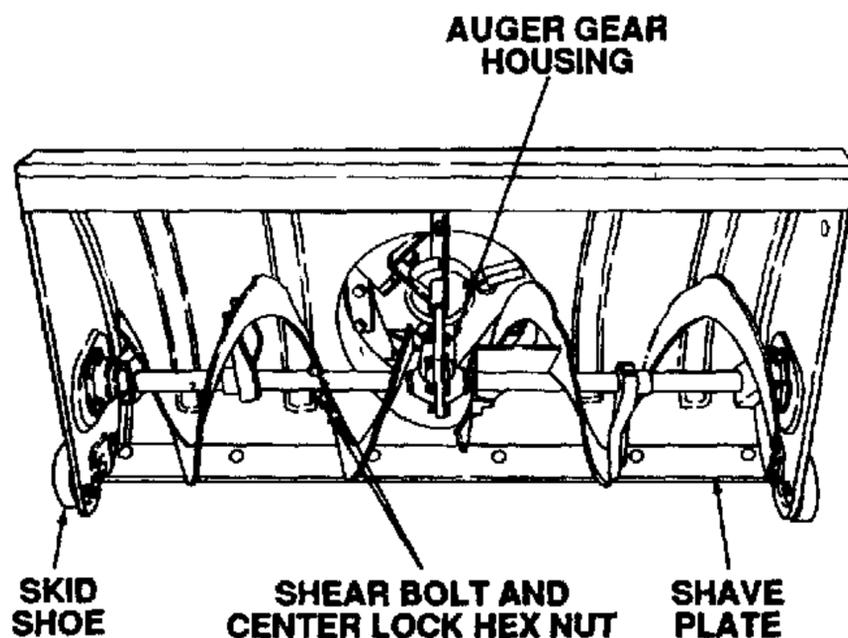

Figure 7-40. Shave Plate and Skid Shoes.
2. The shave plate and skid shoes on the bottom of the snow thrower (See Fig. 7-40) are subject to wear. If worn service as follows:
3. To protect the gear box from damage if the augers become jammed, the augers are secured to the auger shaft with shear bolts (13, Fig. 7-24) and hex center lock nuts (14). If the augers will not turn, check the shear bolts (see Fig. 7-40) and replace if necessary.